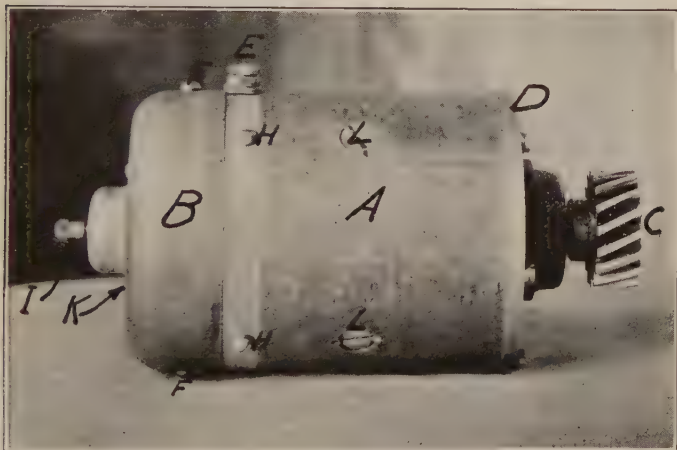
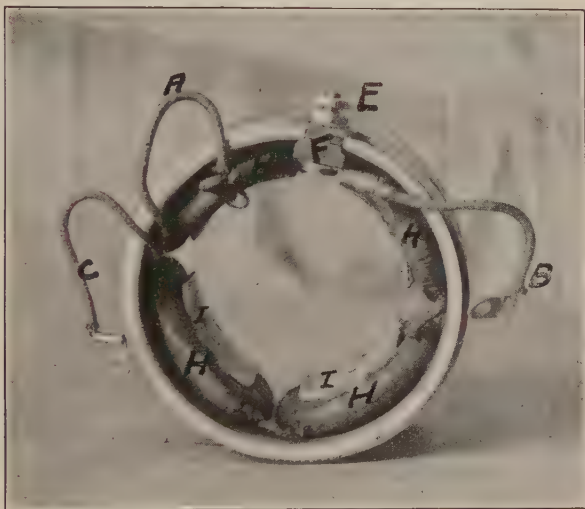
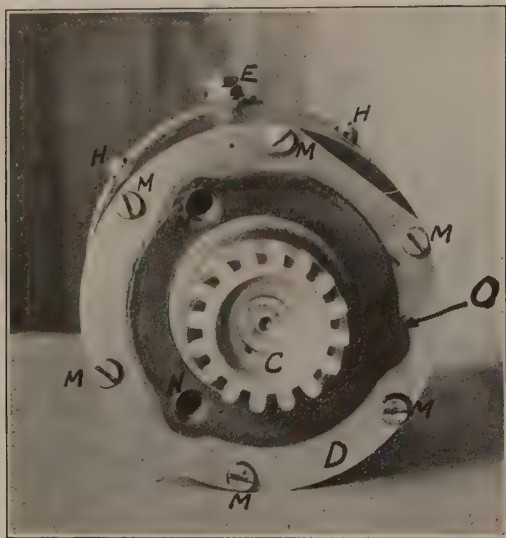

FIGURE 1.
FIGURE 3.
FIGURE 4.
1. **THE GENERATOR**, Figure 1, which (a) charges the battery when the engine is running. (b) Furnishes the current used by the lamps when the engine is running at a speed of over 12 miles per hour. (c) May be used to furnish the current used by the ignition coils when the engine is running, although the regular Ford
LOCATION AND MOUNTING. The generator is located on the right side of the engine at the front end. See N. Figure 20. It is bolted to the cylinder front end cover, with three standard three-eighth inch cap screws with seven-sixteenth standard heads. A paper gasket (See O. Figure 4) is placed between the generator and the cylinder cover to prevent oil leaks.
DRIVE. Mounted on the front end of the generator shaft is a pinion having 16 teeth cut spirally. See C. Figure 1. This pinion engages with the large timer gear. The generator runs at one and one-half times the engine speed.
LUBRICATION. Both front and rear generator bearings are equipped with ball-bearings. The front ball-bearing is lubricated by oil splashing from the timer gear. At the rear end housing of the generator is an oil cup (Shown at I in Figure 1) through which oil may be squirted to lubricate the rear ball bearing. A few drops
FRAME. The main portion of the frame (Shown at **A** in Figure 1) is made of a wrought iron pipe, having an outside diameter of $4\frac{1}{2}$ inches, inside diameter of $3\frac{31}{32}$ inches, and length of $4\frac{7}{16}$ inches. Bolted to the inside of the frame are four steel pole-pieces over which the field
coils are wound. These pole pieces are arranged as shown in Figure 3. Each pole piece is held in place by a flat head machine screw. These screws are prevented from turning by a center-punch mark on the edge of the heads.
At the front end of the frame is a flat cast iron end cap (shown at D in Figures 1 and 4) which carries the front bearing, and which contains the holes shown at N in Figure 4, into which are turned the bolts which fasten the generator to the engine. This end cap is fastened to the generator frame by six screws (shown at M in Figure 4) which turn into the front end of the frame. These screws may be removed with a screw driver when it is desired to remove the end cap and armature. At the rear end of the generator is a removable U shaped housing, as shown in Figure 5. This carries the rear end bearing and the brush ring. It may be removed by taking out four screws, two of which are shown at H in Figure 1. As seen in Figure 5, there are four openings in this housing through which the commutator, brushes, and wiring may be examined. In removing this housing be careful not to crack the insulation (shown at F in Figure 3), which is placed around the generator terminal. Fitting over this housing is a sheet iron cover which closes up the four holes. This cover is shown at B in Figure 1. It is held in place by two screws, shown at F in Figure 1.
FIELD WINDINGS. On each of the four field poles is wound a single field coil. The four coils are connected in series, as shown in Figures 3 and 6. The joints
This is done by taking out two round head screws, as shown at F in Figure 1. The nut which holds in place the bolt which clamps the third brush holder to the brush ring is reached through the opening in the rear end housing, which is to the right of the generator terminal when facing the rear end of the generator. This is a hexagonal nut, and a small thin open end wrench is the best tool to use in turning this nut. Loosen this nut and
3. Take out the six flat head screws, shown at M in Figure 4. Then insert point of screwdriver between the front end cap and the frame and pry the cap loose. Then grasp the pinion and pull out the armature.